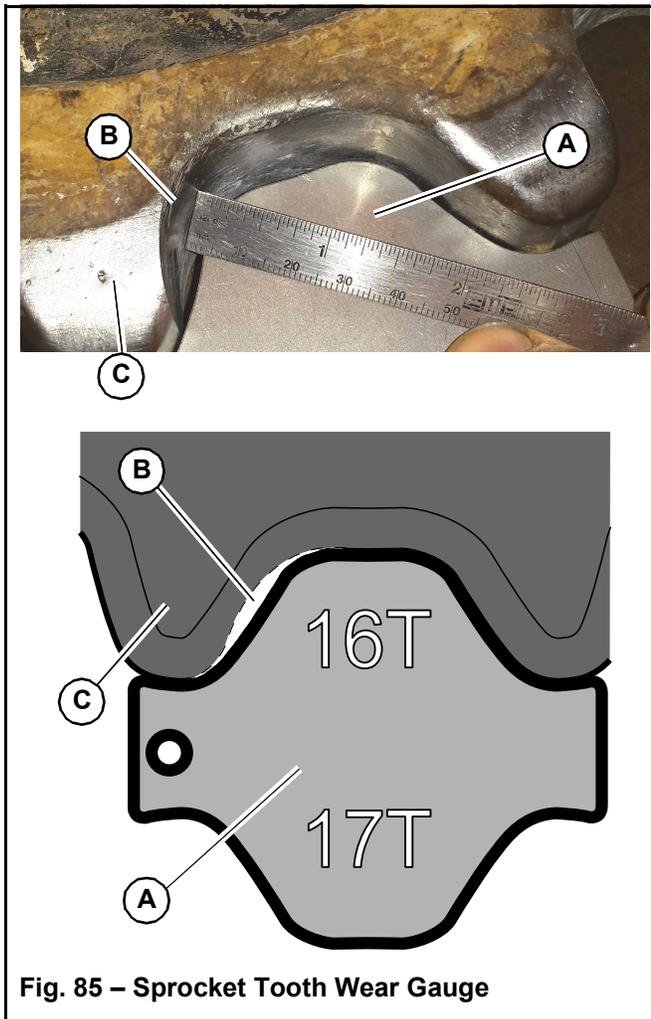

Fig. 85 – Sprocket Tooth Wear Gauge
Worn sprockets are a typical cause of track damage and abnormal track noise. Check for sprocket wear often. Sprocket wear (B, Fig. 85) normally occurs along the sides and crests of the sprocket teeth (C). Use the sprocket tooth wear gauge (A - Manitou part # 50309811), included with the machine, to determine exact sprocket tooth wear: